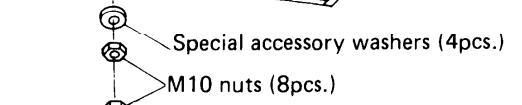

Fig. 11
- g) Adjust the suspension height so that the distance between the bottom face of the flange of the indoor unit and the bottom face of the ceiling material is approx. 3/4". Fig. 11